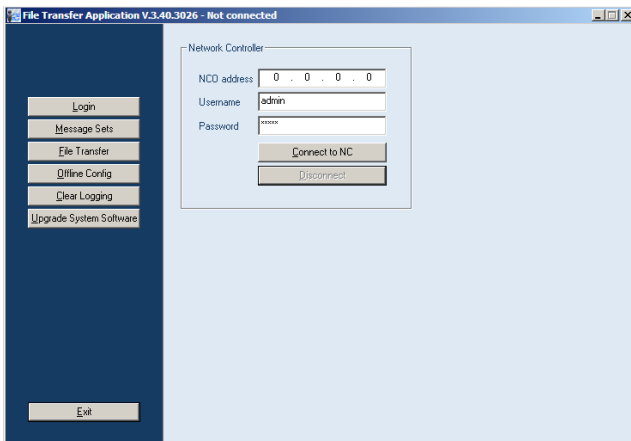

figure 36.4: Connecting to the network controller
- 8 Go to *Start > Programs > Bosch > Praesideo > FT Application* to start the Praesideo *File Transfer Application*. A screen similar to the one in figure 36.4 appears.